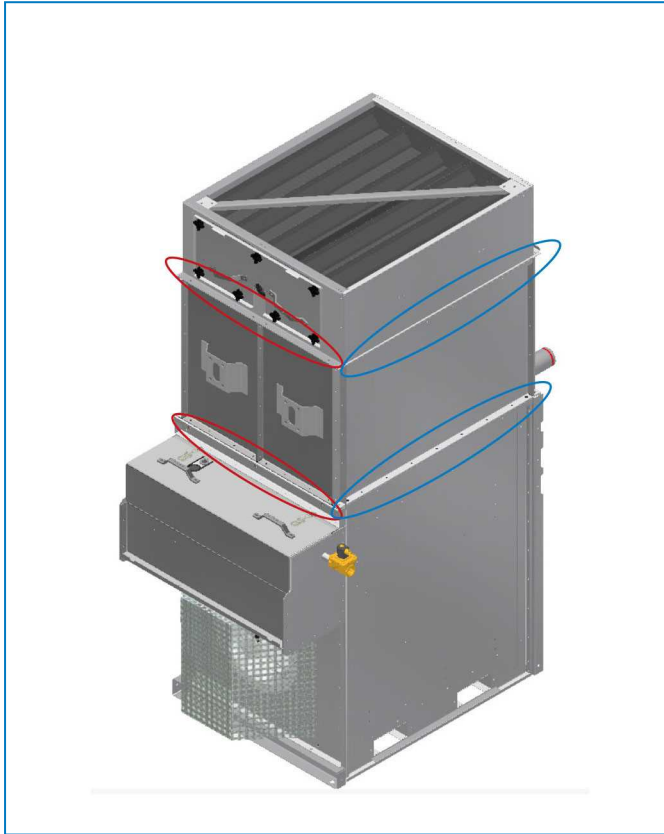

Fig. 7 Fastener type for the spray section assembly
2. Remove the access panel from the spray section, saving the hardware, then carefully remove the eliminators through the opening. Note each eliminator's orientation and location. The eliminators will be replaced after installing the spray's piping. See figure 7.
3. Apply sealer tape to top of the hCore® Heat Tranfer Technology section. Overlap the sealer tape 25 mm in the corners. The spray section can then be lifted and attached on all four sides to the lower section using factory-supplied fasteners, see figure 3. Note the fastener type varies on the location and the unit's material of construction. See figure 7 and table 3.